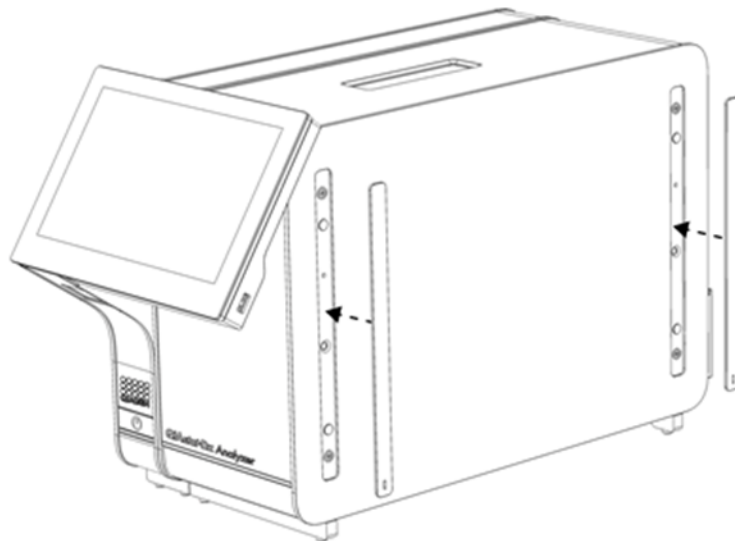

Figure 7. Reattaching the protective covers.
4. Reattach the protective covers on the side of the Analytical Module (Figure 7).